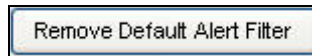

Figure 8.3.2
2. Click on the **Remove Default Alert Filter** button (Figure 8.3.2).